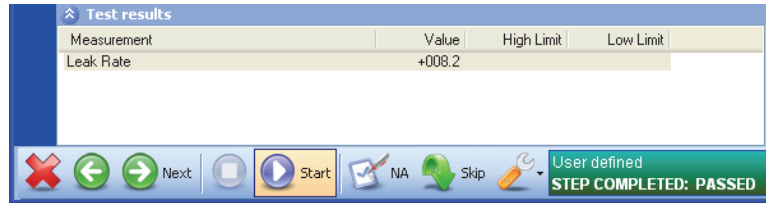

Figure 3-5. Test Results Pane for NIBP Tests
12. At the end of the test duration, or if you click  to stop the test, the test results pane shown in Figure 3-5 shows in the display. The test results for the NIBP test comes from the Simulator and therefore does not require a manual input.